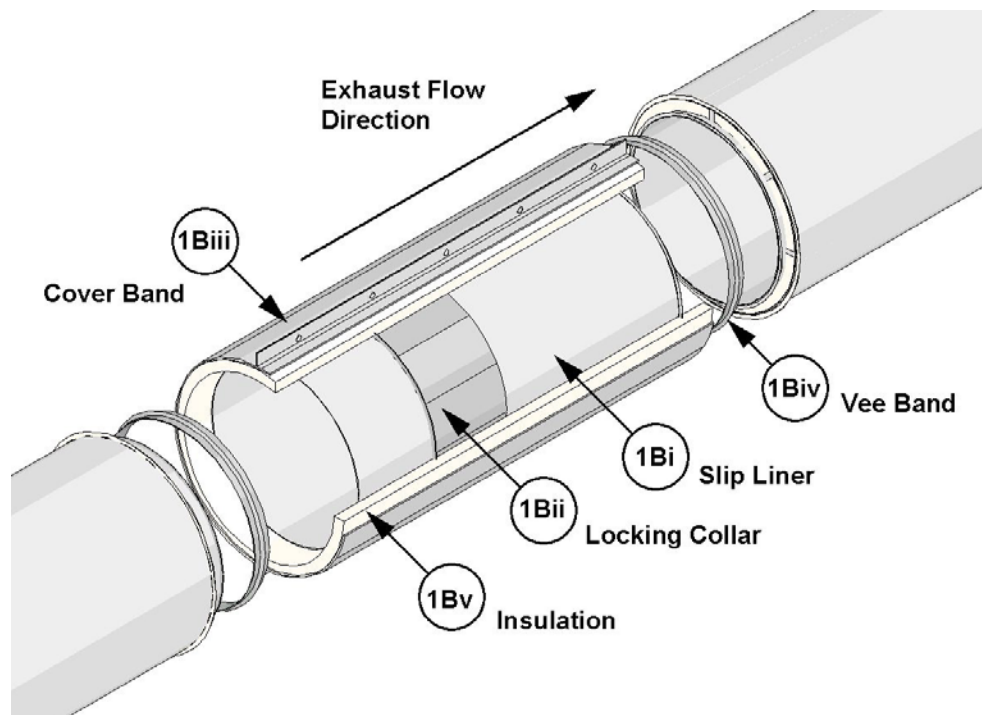

Figure 2. Variable Length Section – Part VLS
Reference Figure 2 below and also Item 2B for joint details. When required, use a VLS consisting of the following supplied components:
B. Variable Length Section (VLS) Joints: Reference Figure 2.